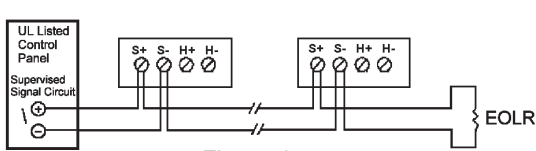
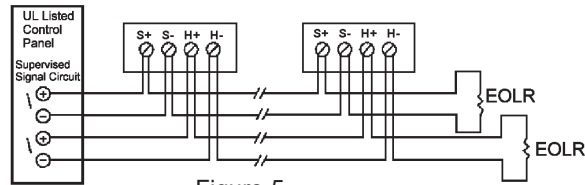
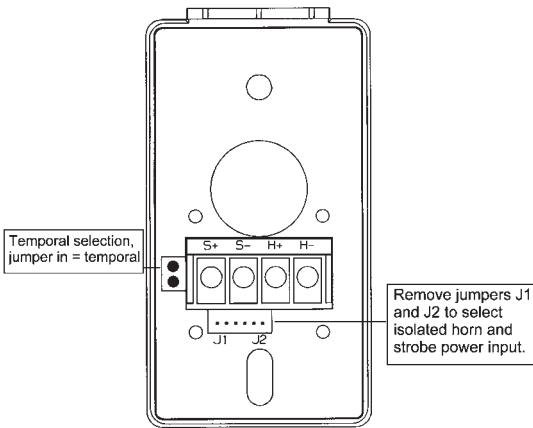

Figure 4
Figure 5
Figure 6
2. Choose either temporal or continuous horn with the temporal horn synchronized (Figure 6).
3. Also wire the control module (AVS44) to only the strobe input power terminals, set the horn to continuous mode (Fig.6) and power it from a march time source. **NOTE:** For this option, **J1** and **J2** on the HS (Figure 6) must be removed to isolate power to the audible and visible portion of the circuit.
You may connect both the strobe and the horn directly from a source of rated power without the use of a control module. However, the horns and strobe lights will **NOT** be synchronized. Leave jumpers **J1** and **J2** in place on the HS (Figure 6) to power both the audible and visible from a single pair of power wires (Figure 4). If you wish to power the horn and strobe from independent sources of power, remove **J1** and **J2** on the HS (Figure 6) and connect power to the appropriate terminals (Figure 5).